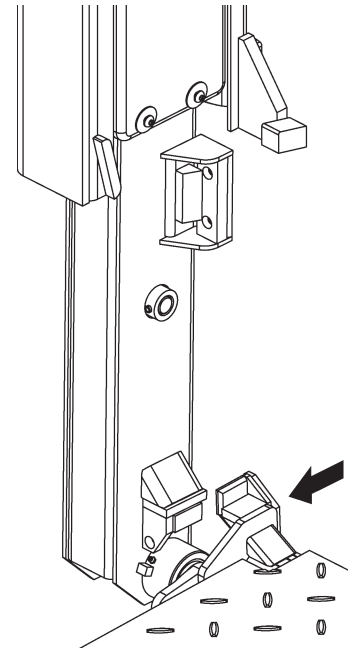

FIG. 6-1
11. Use a forklift or equivalent lifting device to lift platform and line it up with attaching points on the LH runner (FIG. 6-1) and RH runner.